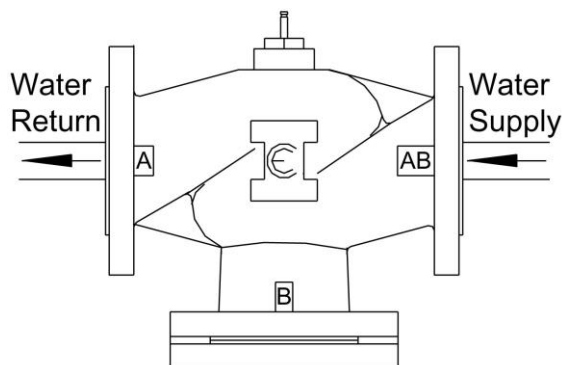
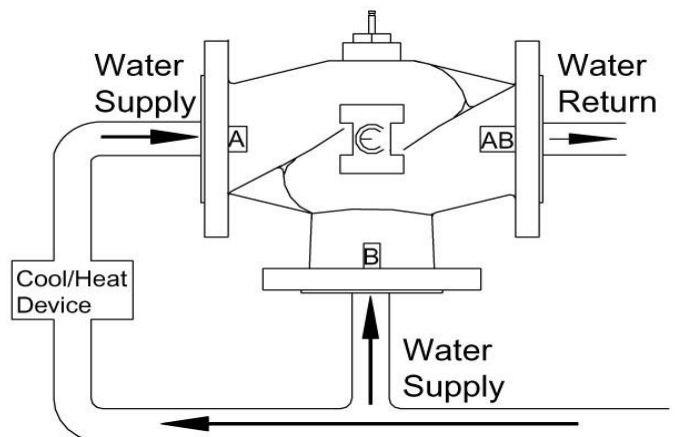

Fig. 1 Two-way valve
Fig. 2 Three-way valve
1. The valve should be mounted horizontal, the lean angle should not be more than 30°. Otherwise it will influence the working life of the valve. (See Fig. 1 and Fig. 2)